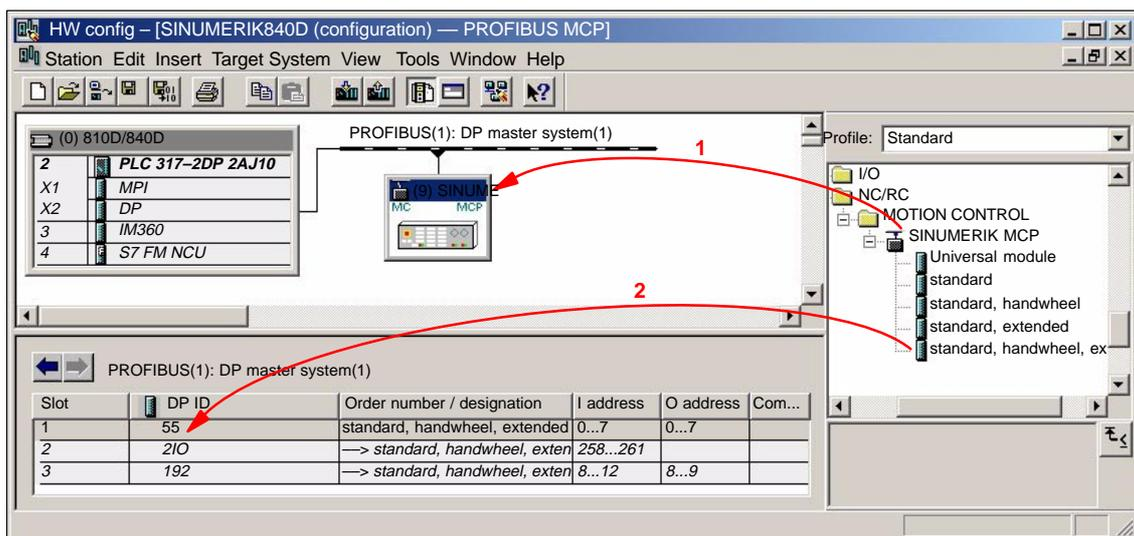

Fig. 8-14 Configuration with DP slave: MCP 310
This chapter describes the configuration of a DP slave: MCP 310 by way of example of the hardware configuration of a SIMATIC S7 project shown in Fig. 8-14.
1. Insert DP slave: MCP 310 in the configuration (see Fig. 8-14, Page 8-234: 1)
3. Insert the modules in DP slave: MCP 310 for the functions required. (see Fig.8-14, Page 8-234: 2)